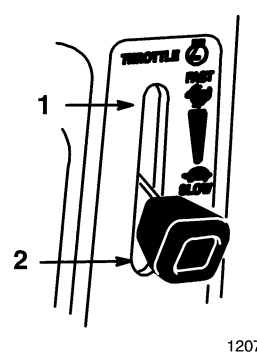

Figure 4
5. Move throttle lever to “FAST” (Fig. 4).
7. After the engine starts, move the choke lever to “OFF” and slowly move the throttle to the desired setting (Fig. 4). If the engine stalls or hesitates, move the choke lever back to “ON” for a few seconds. Then move the throttle lever to “FAST.” Repeat this as required.
1. Move the throttle lever to “SLOW” (Fig. 4).